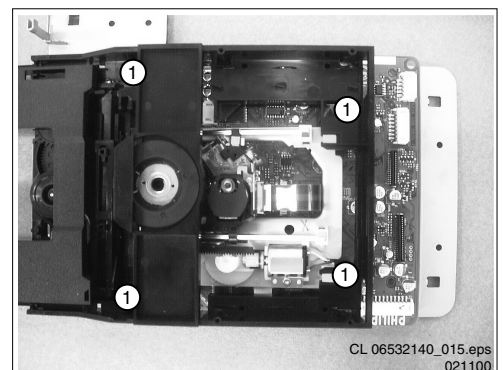

Figure 4-5
- Remove the bottom-cover of the DVD by unscrewing the four fixation screws [1], **Fig. 4-5**. The DVD board can now be accessed.